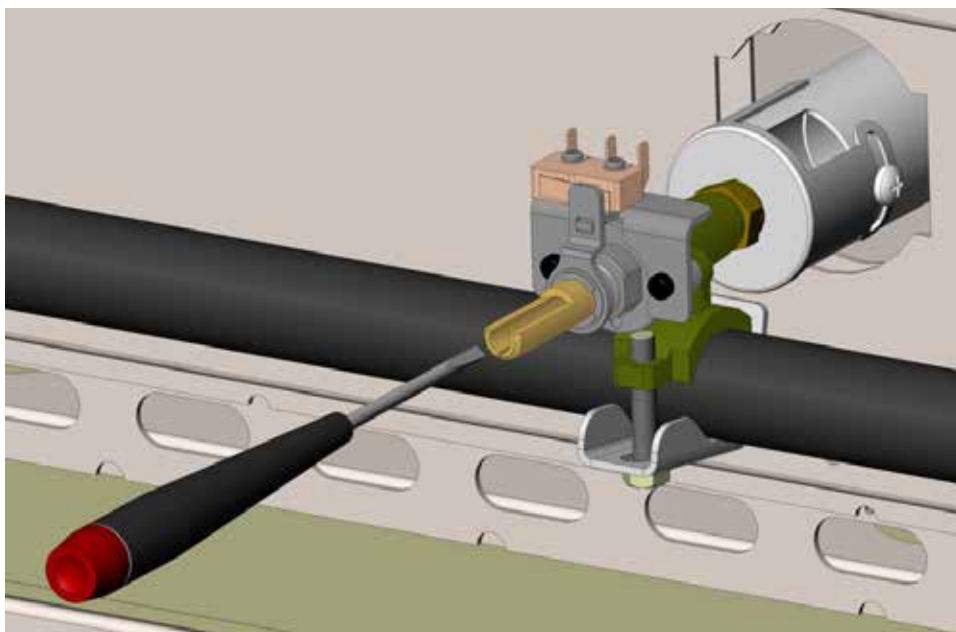

Figure 5
4. Insert a small flat-blade screwdriver into the valve stem to begin the adjustment (see Fig. 5). The screw only has 2-3 complete revolutions of adjustment. After this, the screw may continue to turn, but is actually coming out of the valve and could result in a gas leak. DO NOT turn more than 3 revolutions!